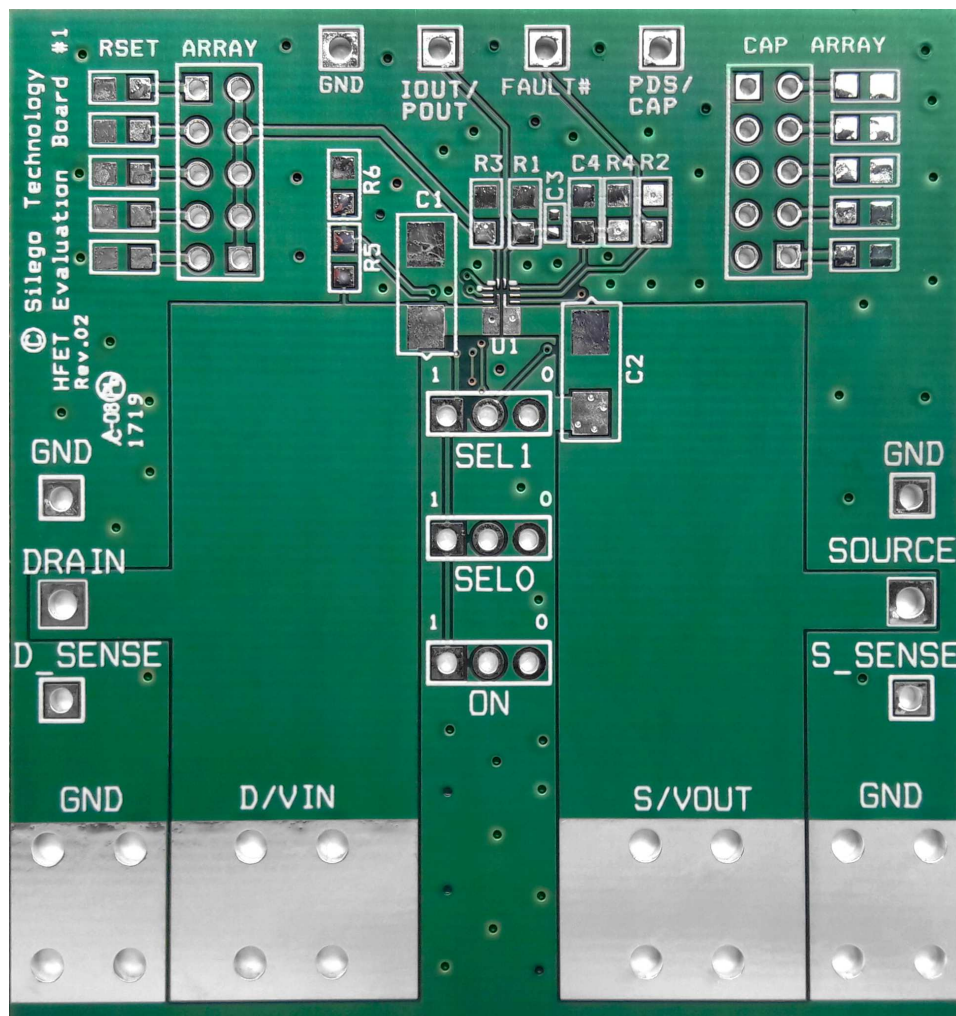

Figure 26. SLG59H1017V Evaluation Board
1. Since the  $V_{IN}$  and  $V_{OUT}$  pins dissipate most of the heat generated during high-load current operation, it is highly recommended to make power traces as short, direct, and wide as possible. A good practice is to make power traces with absolute minimum widths of 15 mils (0.381 mm) per Ampere. A representative layout, shown in Figure 26, illustrates proper techniques for heat to transfer as efficiently as possible out of the device;
A High Voltage GreenFET Evaluation Board for SLG59H1017V is designed according to the statements above and is illustrated on Figure 26. Please note that evaluation board has D\_Sense and S\_Sense pads. They cannot carry high currents and dedicated only for  $R_{DS(ON)}$  evaluation.